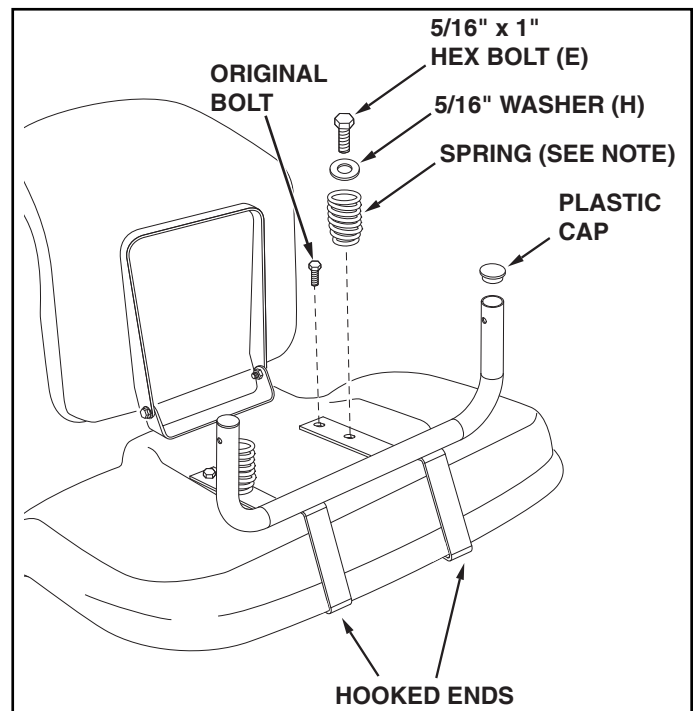

FIGURE 5
STEP 5: (SEE FIGURE 5)
- Attach the base bracket assembly and the seat springs to the rear holes in the fender using the new 5/16" x 1" bolts (E) and 5/16" washers (H) supplied with the sun shade. If seat springs were mounted to front holes, see note below. **Do not tighten completely.**